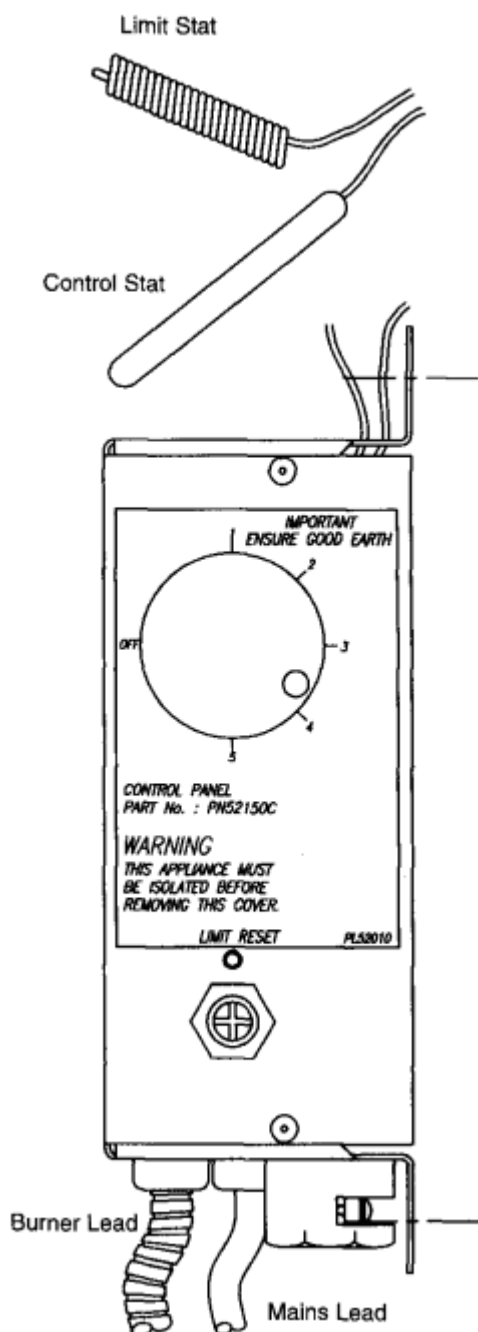

Fig. 1 Control Panel Arrangement
Boiler Control Panel (see fig 1)
Should this occur, wait for the Boiler to cool, and then reset the thermostat by pressing the limit thermostat reset button located under the Control thermostat - see fig 1.
2. Make sure the Boiler Control Thermostat is set within the recommended range (see fig 1) and that the mains electricity and oil are turned on.